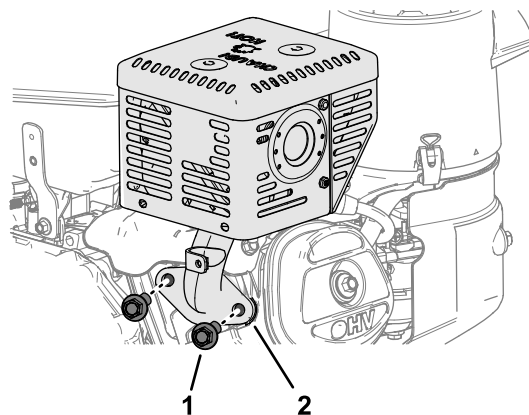

Figure 83
- Remove the 2 flange bolts that secure the muffler to the exhaust-outlet flange of the engine, and remove the muffler (Figure 83).
- Align the muffler and a new exhaust gasket to the exhaust-outlet flange of the engine (Figure 83).